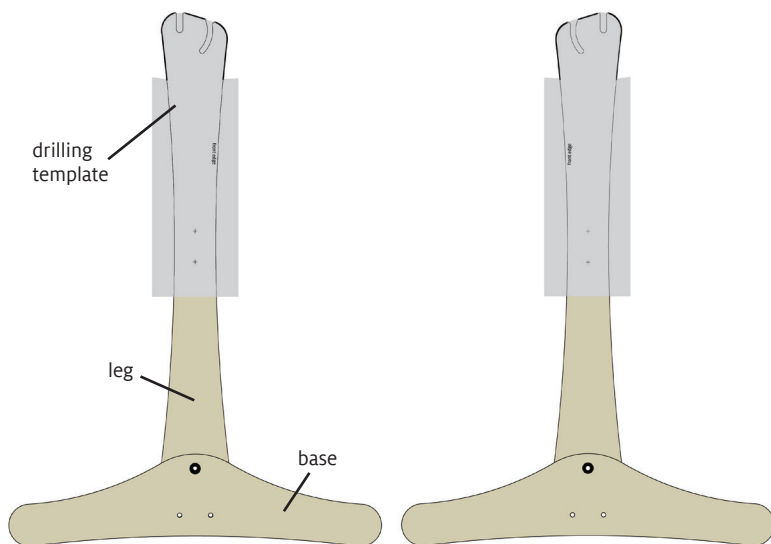

FIGURE 1: SET UP DRILLING TEMPLATES
2. Cut apart the two drilling templates (shown in gray in Figure 1). Cut along the heavy lines at the top of the the leg—this will make it easier to line up the curved edges.
3. Tape one template to each leg, matching the curved tops and front edges. Make certain the front edge of the template matches the front edge of the leg as closely as possible, as shown in Figure 1.